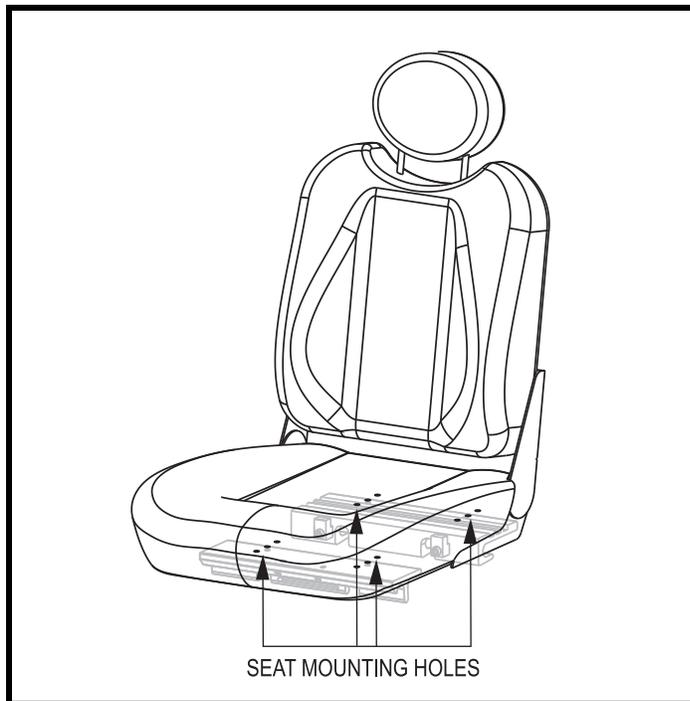

Figure 15. Seat Position Adjustment
4. Reposition the extrusions on a different set of mounting holes. You must move both extrusions the same number of holes either forward or rearward. See figure 15.